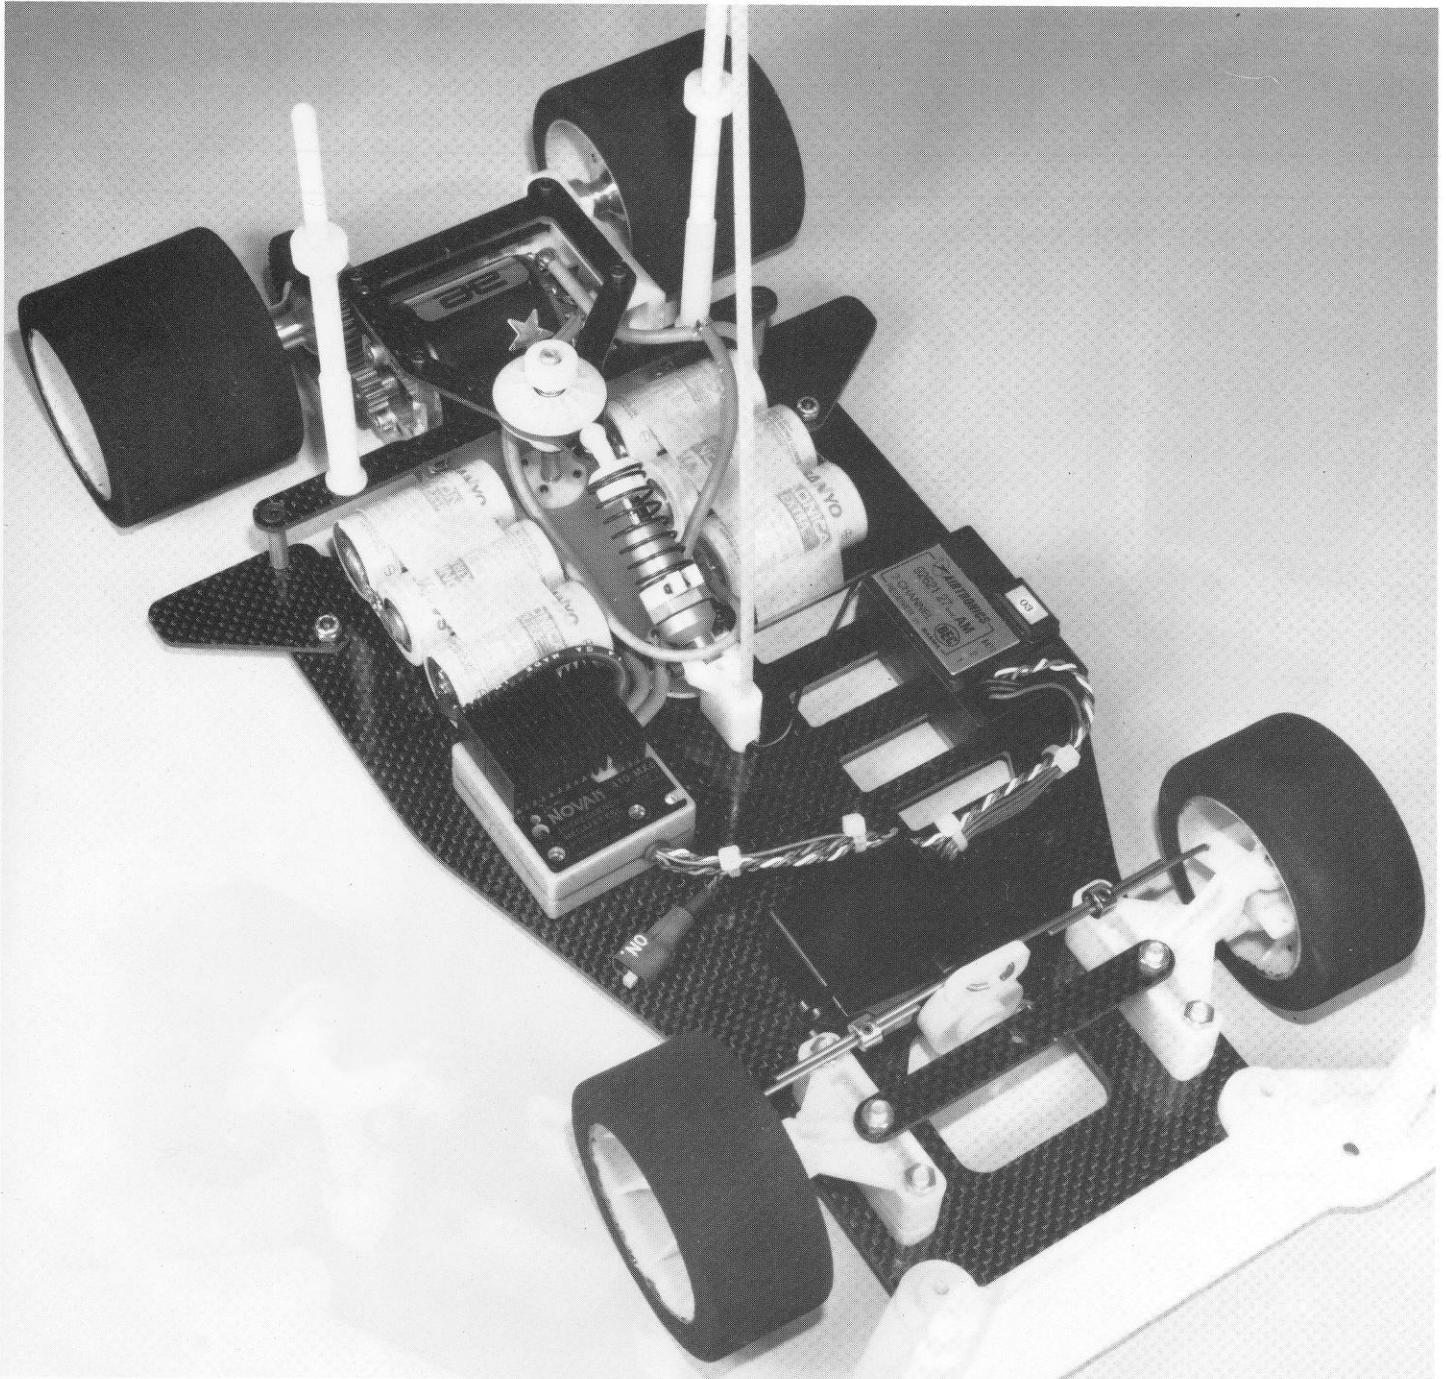

Fig. 78
□ **Figs. 78 & 79**—Your RC10L Super Speedway car can be set up to run on a variety of oval tracks. On the steeply-banked tracks like Whippoorwill or Velodrome, where there isn't much side load, you can probably run your batteries centrally mounted, three on each side. This will give the car optimum balance in the corners.